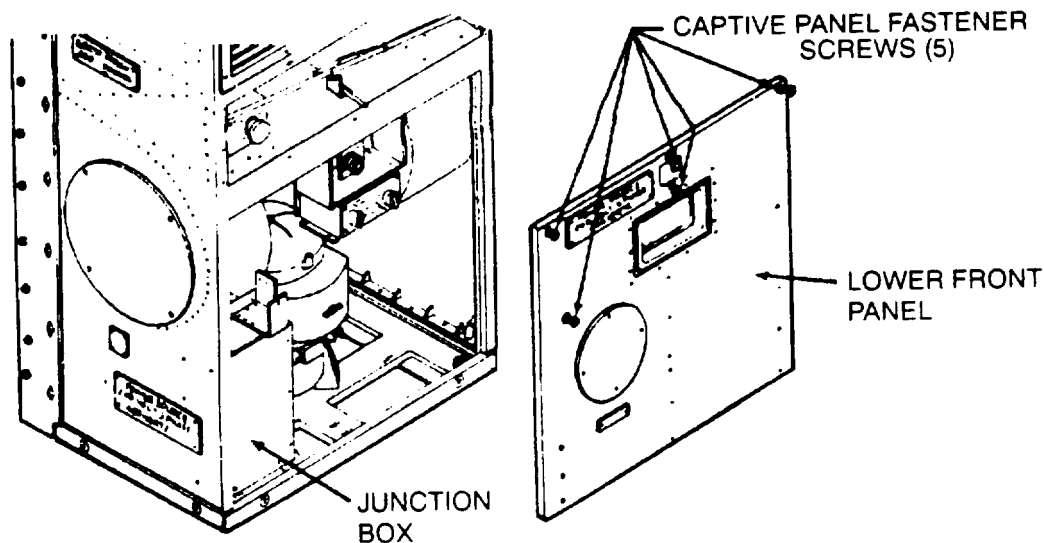

Figure 4-59. Lower Front Panel Removal
- (1) See paragraph 4-36 for general wire repair instructions.
- (2) See Table 4-3 (Wire List) for wire lengths and terminal/connector information.
c. Removal/Installation. See Figure 4-59 for removal/installation information.